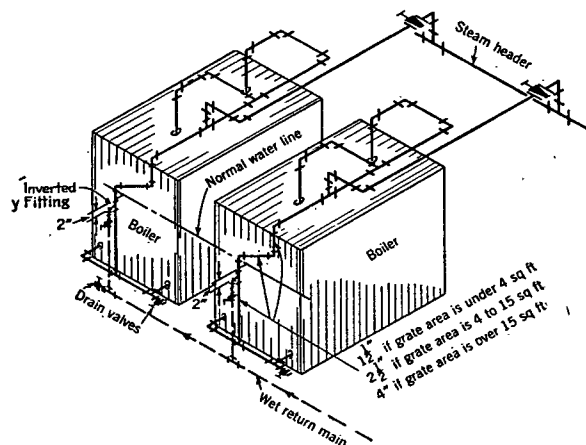

FIG. 3. THE HARTFORD RETURN CONNECTION
In order to prevent the boiler from losing its water under any circumstances, the use of the Hartford return connection is recommended. This connection for a one- or two-boiler installation is shown in Fig. 3. The essential features of construction of a Hartford return connection are: (1) a direct connection (made without valves) between the steam side of the boiler and the return side of the boiler, and (2) a close nipple, or
preferably an inverted Y-fitting connection about 2 in. below the normal boiler water line from the return main to the boiler steam and return pressure balance connection. Equalizing pipe connections between the steam and return are given in Fig. 3, based on grate areas, but in no case shall this pipe size be less than the main return piping from the system.